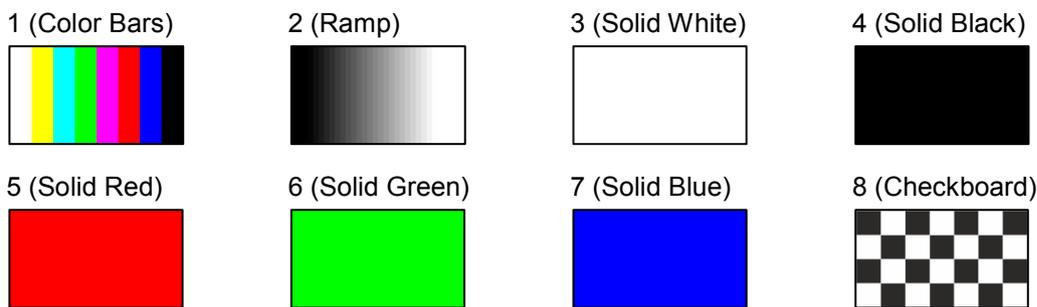

Figure 10: VS-44UHDA Embedded Patterns
3. Press an input button to select a pattern (see Figure 10).